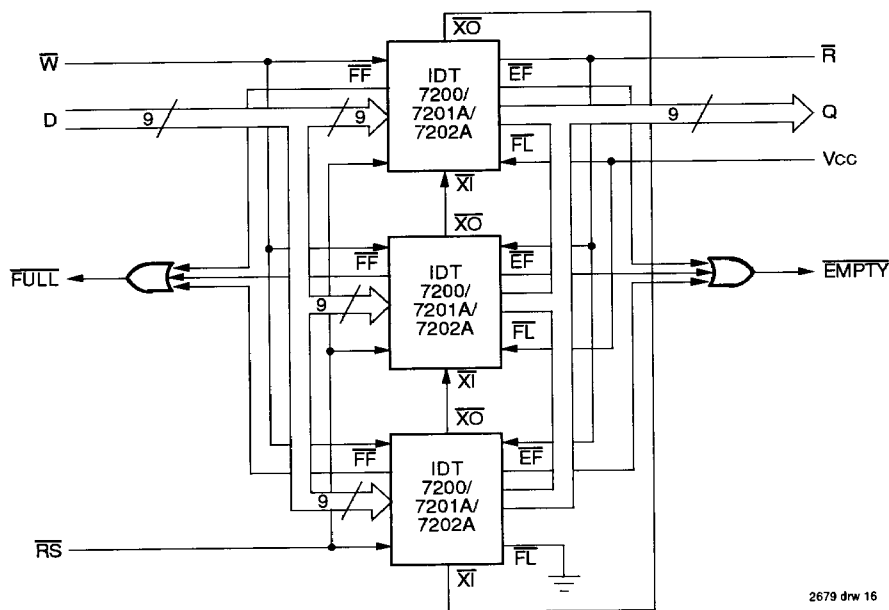

Figure 14. Block Diagram of 768 x 9/1536 x 9/3072 x 9 FIFO Memory (Depth Expansion)
The IDT7200/7201A/7202A can easily be adapted to applications when the requirements are for greater than 256/512/1024 words. Figure 14 demonstrates Depth Expansion using three IDT7200/7201A/7202As. Any depth can be attained by adding additional IDT7200/7201A/7202As. The IDT7200/7201A/7202A operates in the Depth Expansion mode when the following conditions are met:
3. The Expansion Out ($\overline{XO}$) pin of each device must be tied to the Expansion In ($\overline{XI}$) pin of the next device. See Figure 14.
4. External logic is needed to generate a composite Full Flag ($\overline{FF}$) and Empty Flag ($\overline{EF}$). This requires the ORing of all $\overline{EF}$ s and ORing of all $\overline{FF}$ s (i.e. all must be set to generate the correct composite $\overline{FF}$ or $\overline{EF}$). See Figure 14.
1. XI is connected to XI of previous device. See Figure 14. RS = Reset Input, FL/RT = First Load/Retransmit, EF = Empty Flag Output, FF = Flag Full Output, XI = Expansion Input, HF = Half-Full Flag Output
1. For depth expansion block see section on Depth Expansion and Figure 14.